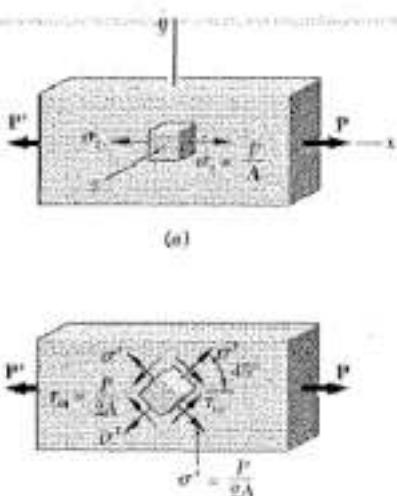

Fig. 1.40 (b)
2.72 For a member under axial loading, express the normal strain  $\epsilon'$  in a direction forming an angle of  $45^\circ$  with the axis of the load in terms of the axial strain  $\epsilon_x$  by (a) comparing the hypotenuses of the triangles shown in Fig. 2.54, which represent respectively an element before and after deformation, (b) using the values of the corresponding stresses  $\sigma'$  and  $\sigma_x$  shown in Fig. 1.40, and the generalized Hooke's law.